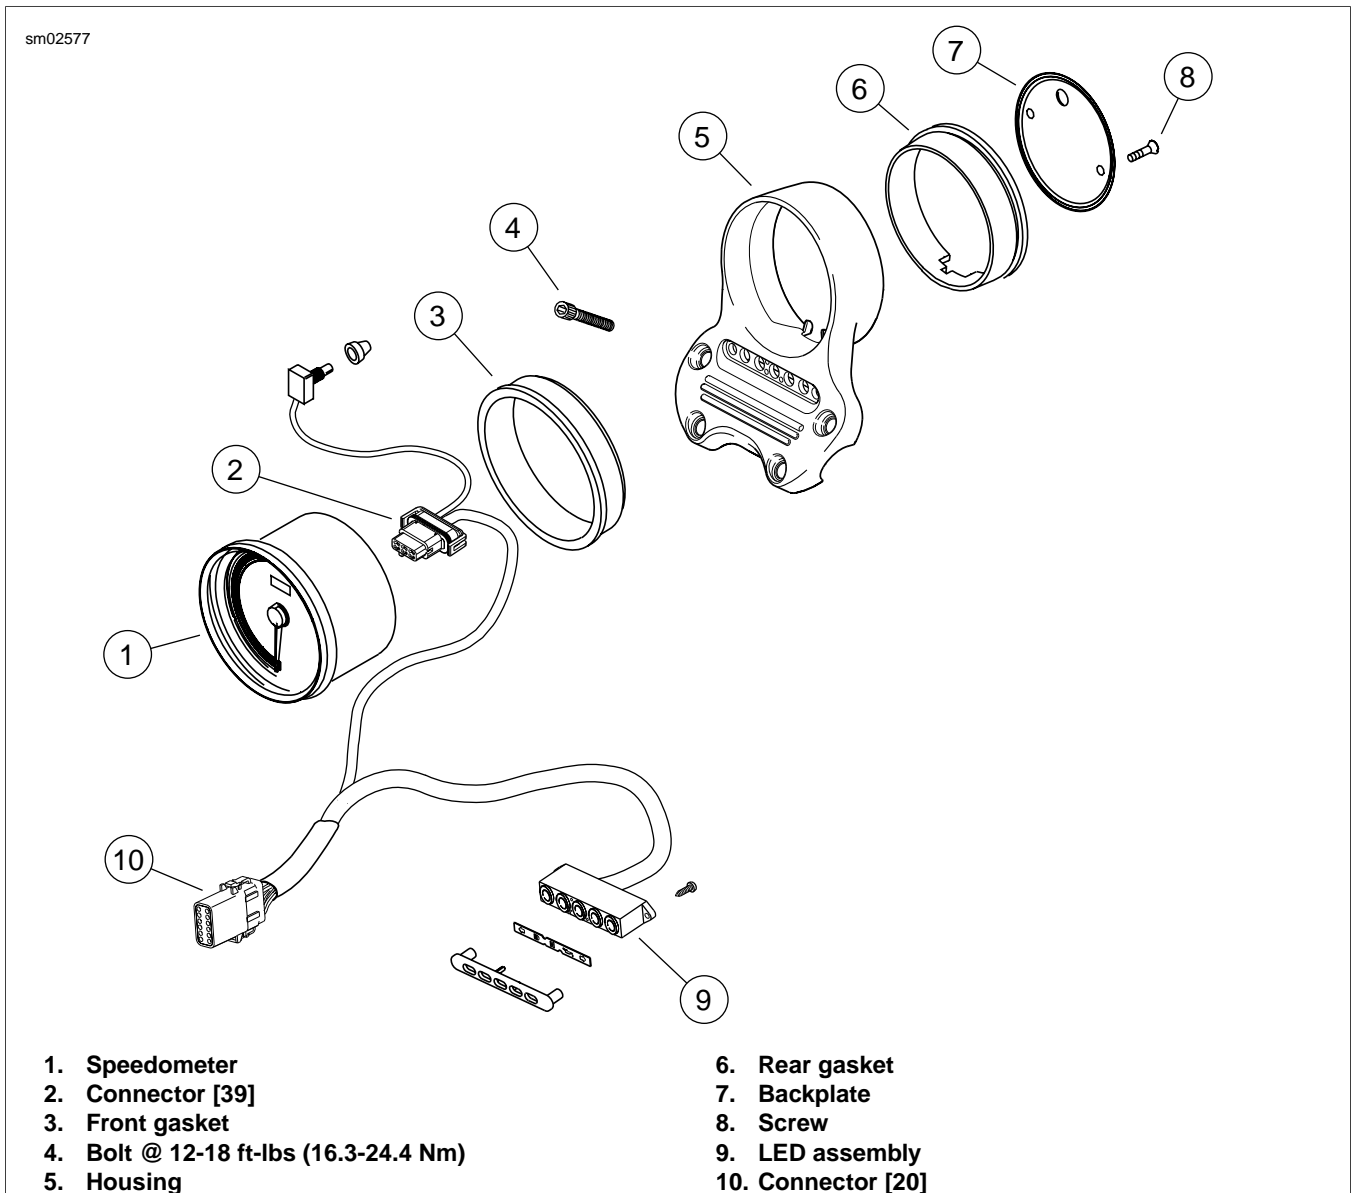

Figure 7-58. Instrumentation: FXD
1. See Figure 7-58. Remove two screws (8) and backplate (7).
2. Depress tab and remove 12-pin connector (2) [39] from back of speedometer.
3. Push speedometer (1) through front of housing (5).
4. Remove front gasket (3) from speedometer.
1. See Figure 7-58. Install front gasket (3) to speedometer and slide speedometer into housing. Press firmly until fully seated.
2. Connect 12-place connector (2) [39] to back of speedometer.
3. Route wires through slot in back of instrument housing. Install rear gasket (6) on back of housing. Install backplate (7) with two screws (8).